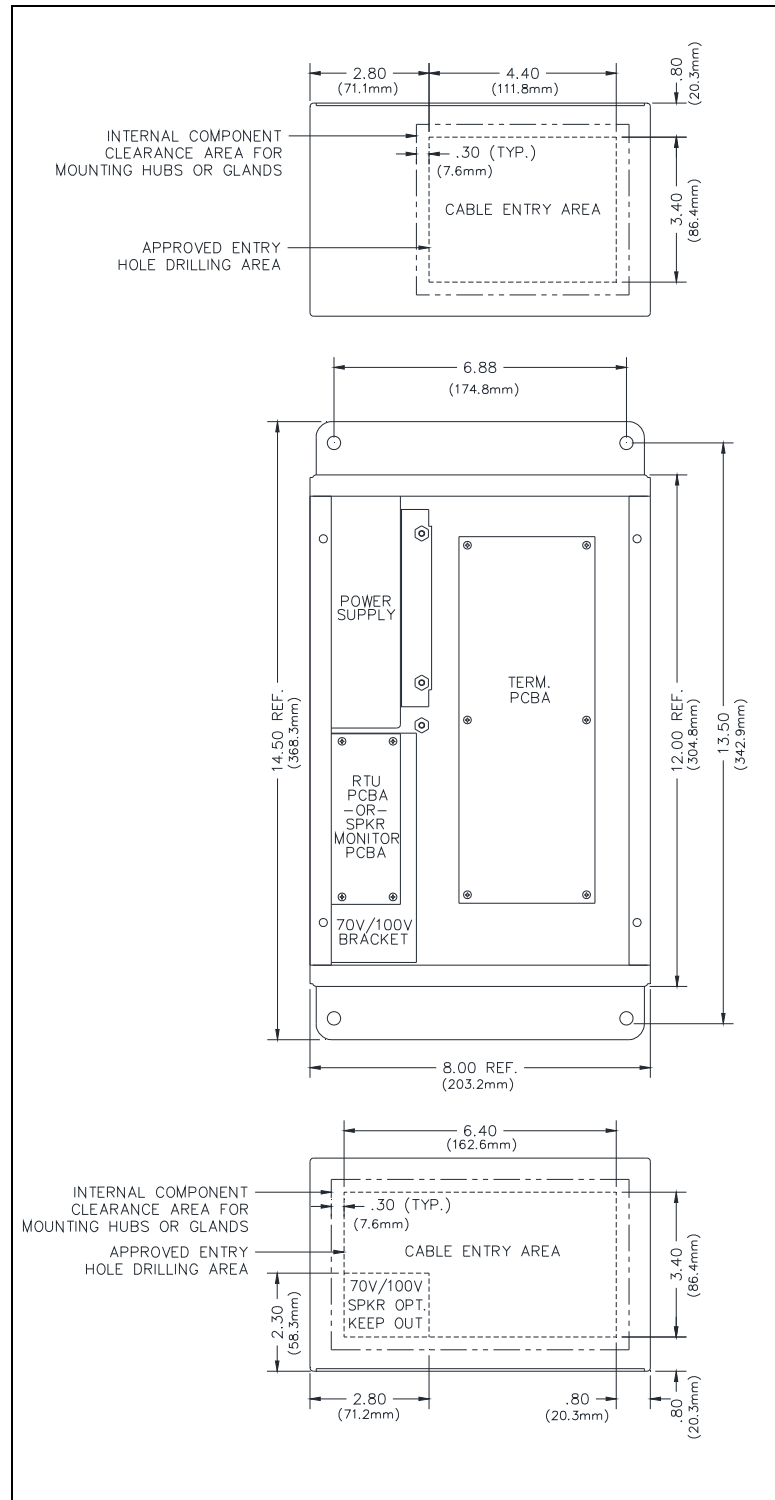

Figure 3. Suggested Wire Entry Locations
- The station is suitable for top or bottom entry (see Figure 3).
NOTE: ICS Page/Party® stations with the 70V/100V speaker output option installed have limited wire entry space on the bottom left side of the enclosure (see Figure 3).
Drill or punch the required openings in the rear section of the enclosure (see Figure 3).
The standard station orientation locates the power supply housing in the upper left corner (see Figure 3). The orientation of the enclosure can be rotated 180° to allow clear access to the top. The termination PCBA and the front panel must then be rotated for correct orientation before installation.